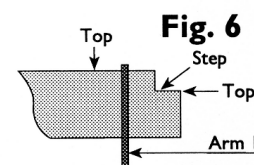

Fig. 6
- (b) Slide the QQ Clip upto the next gauge mark. (See fig. 6)